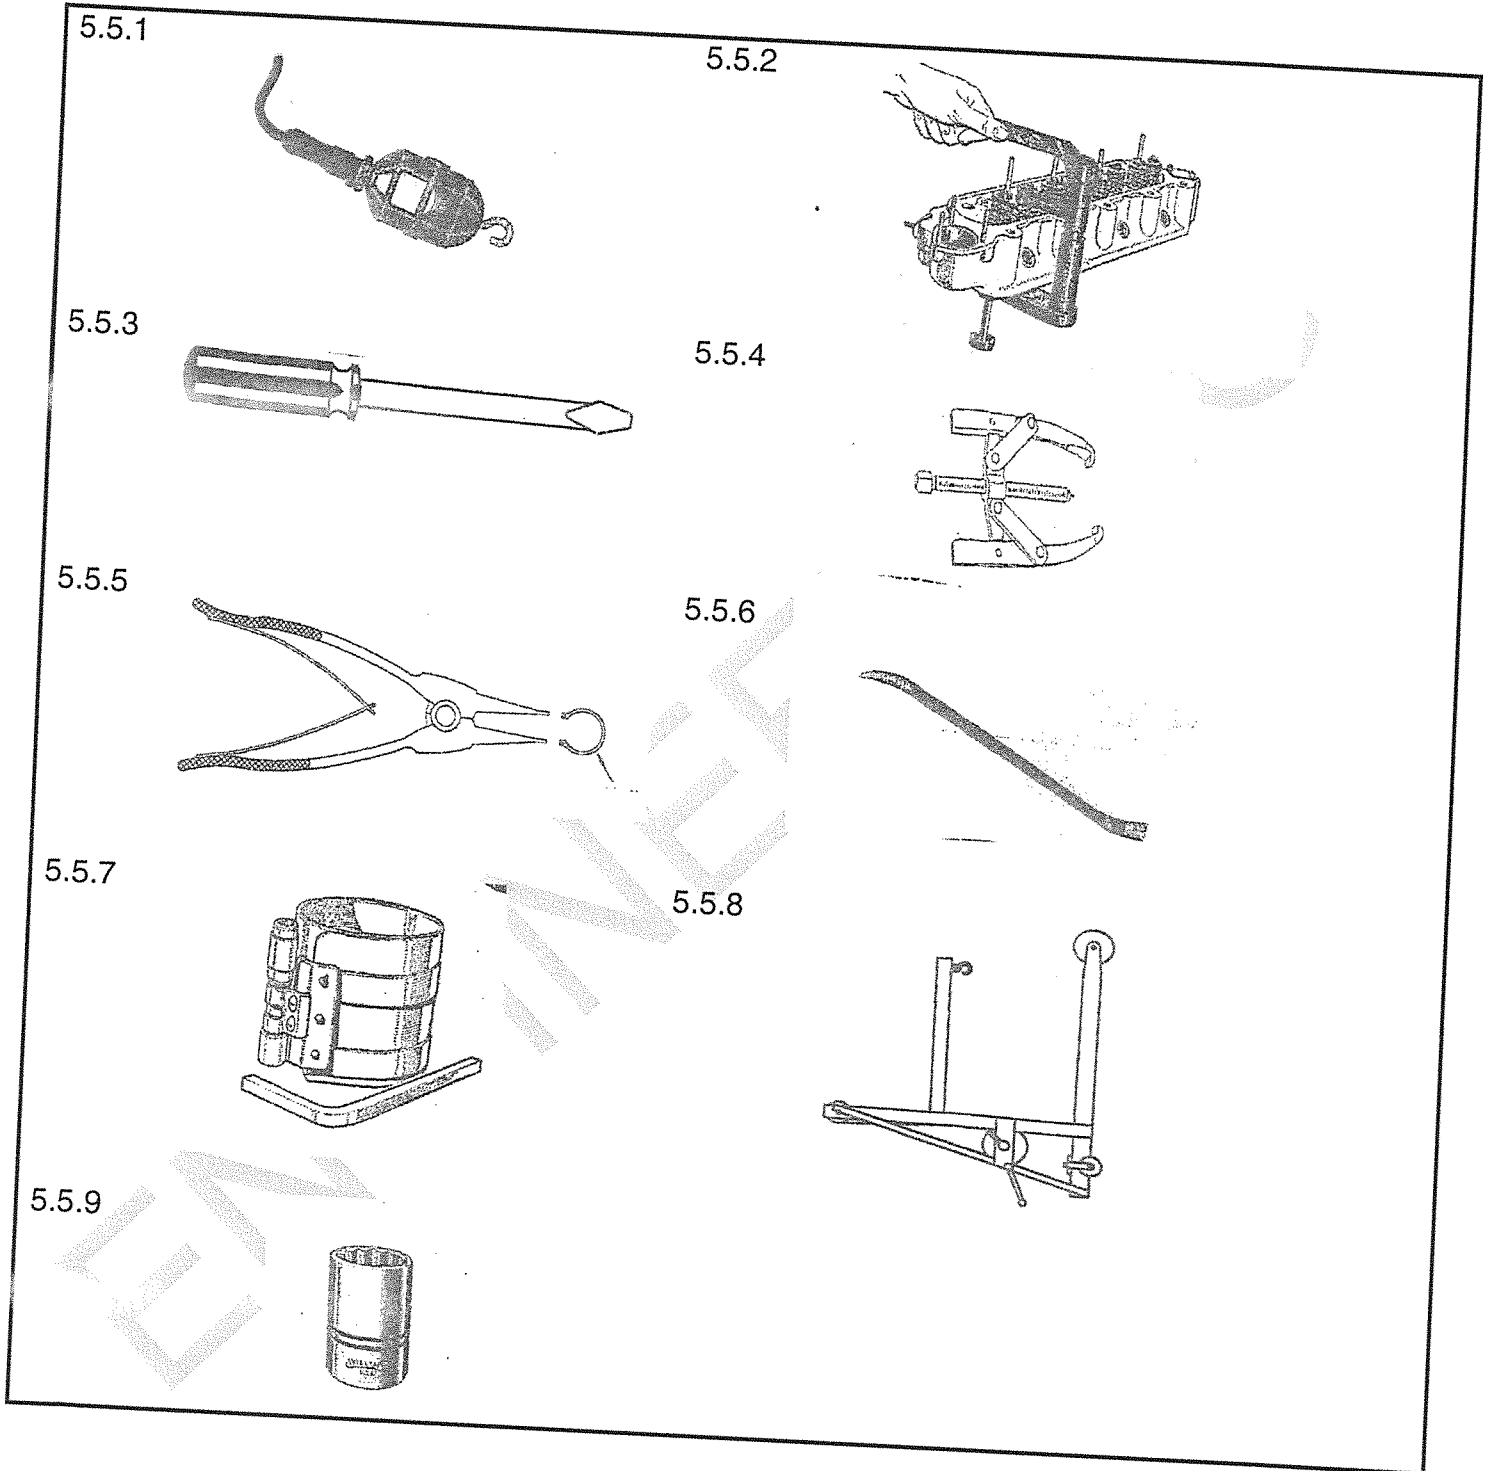

FIGURE 7
- (1)
5.5 FIGURE 7 below shows various tools used in the workshop. Name the tools and write each answer next to the question number (5.5.1–5.5.9) in the ANSWER BOOK.